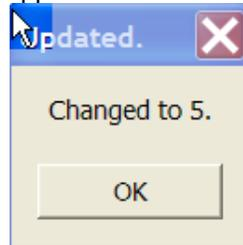

Figure 102. Notification
(3). Enter the number of samples to appear on the history listing report. Press OK (Figure 102).